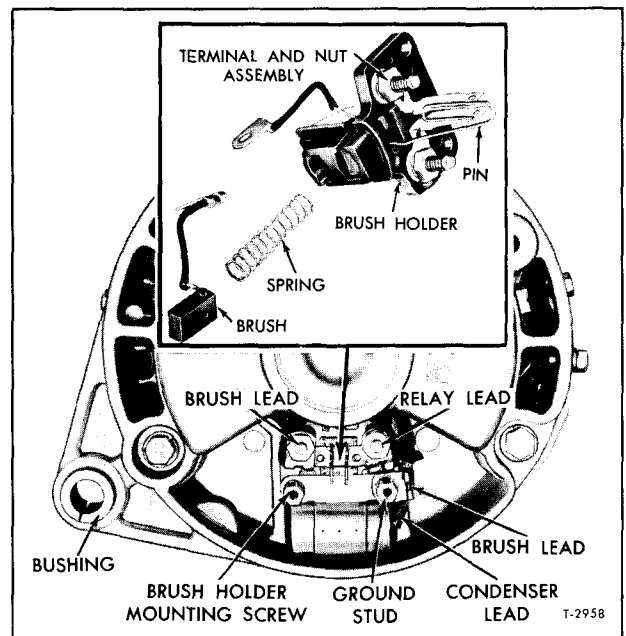

Figure 17—Generator Brush Replacement (Model 1117754) (Typical)
GENERATOR BRUSH REPLACEMENT (MODEL 1117754) (Fig. 17)
6. Position brush holder and brushes in end frame, then secure brush and condenser leads to terminals as shown in figure 17.